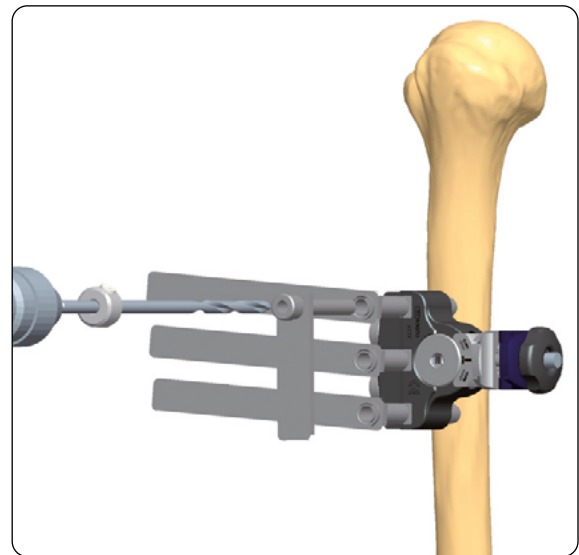

Fig. 2
2) Keeping the screw guide in contact with the cortex by gentle pressure, withdraw the trocar, and tap the screw guide lightly to anchor its distal end. Make sure that there are no soft tissues between the bone and the screw guide. Insert the 4.8mm drill guide (11102) into the screw guide, and drill with a 4.8mm drill bit (11001). Use a sharp drill and make sure that the drill bit is at right angles to the bone, the force is applied to the drill is firm and the drilling time as short as possible to avoid thermal damage (**Fig. 2**). Once the second cortex has been reached, reduce the drilling speed and continue through the bone. Ensure that the drill bit completely penetrates the second cortex.